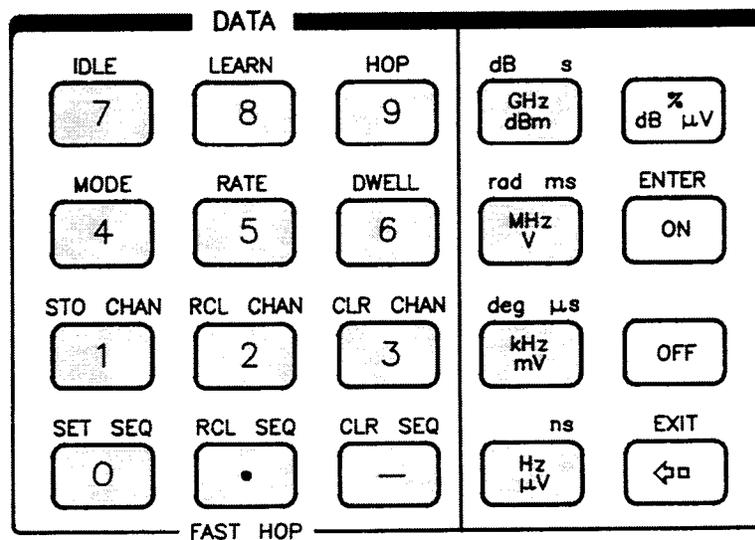

Figure 4-3. Data Keys for Start, Stop, Center, and Span.
- Use the front-panel **DATA** keys shaded in figure 4-3: